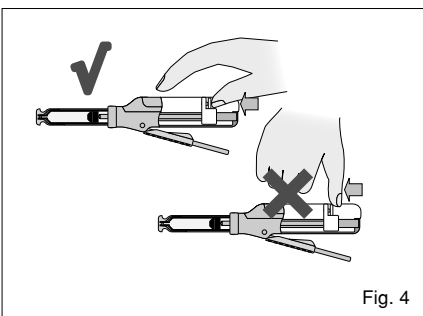

Fig. 4
- c. After cartridge loading, slide the release lever forward until it stops. (Fig. 4)